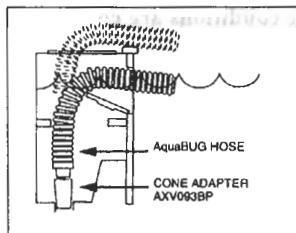

Figure 6
With the filter system turned **OFF**, connect the hose to the skimmer according to Figures 6, 7, or 8.
**Figure 6** shows the proper way to connect the hose to a skimmer with a bottom suction port using the AXV093BP Skimmer Cone Adapter (included).